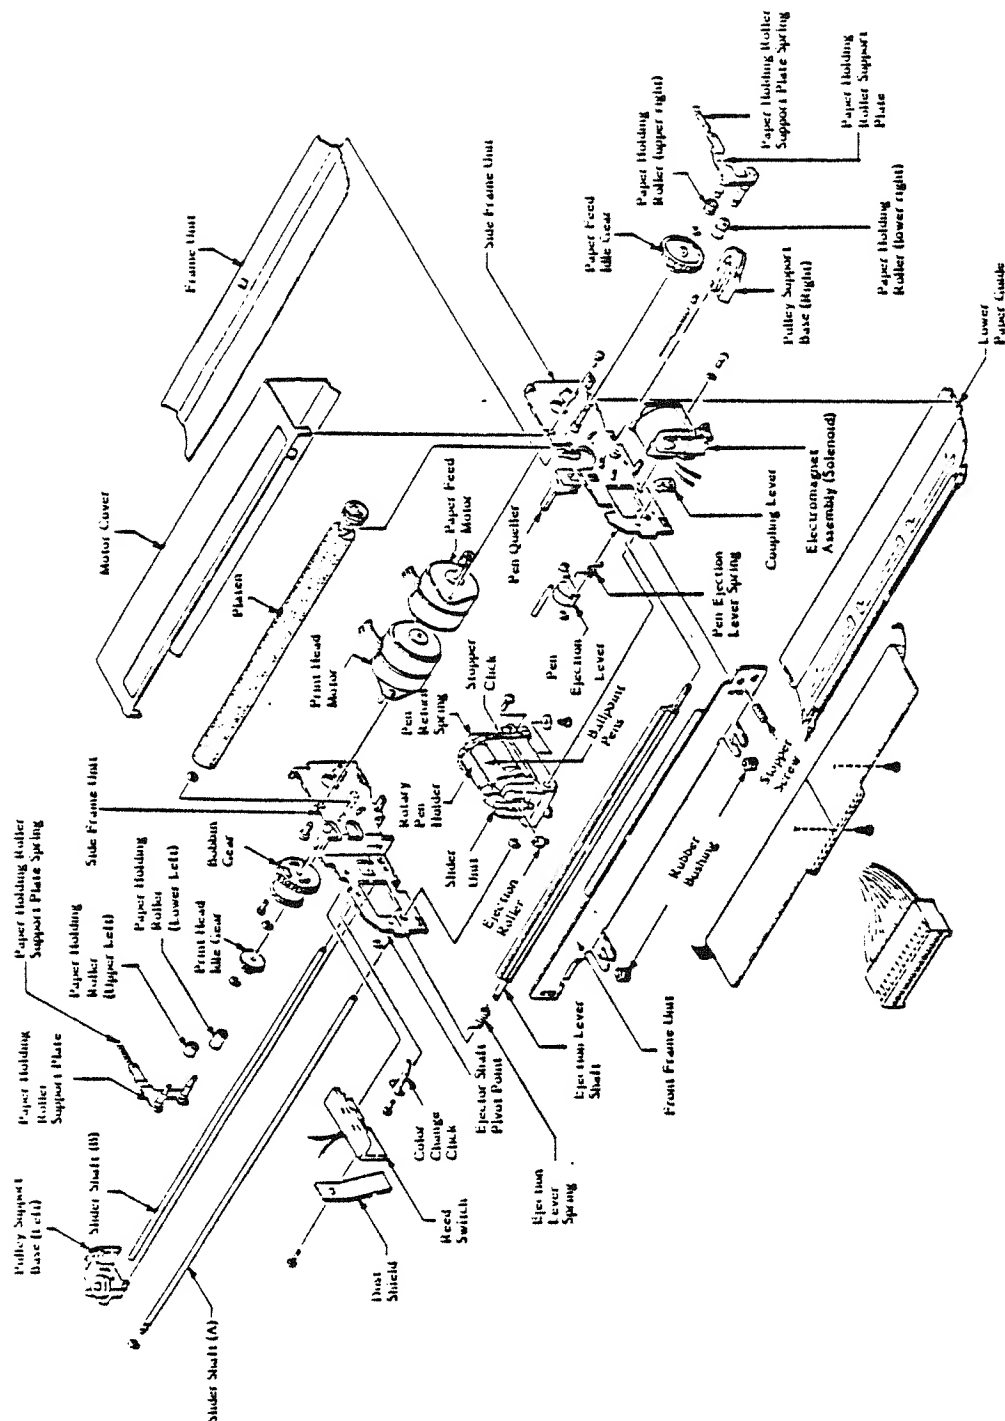
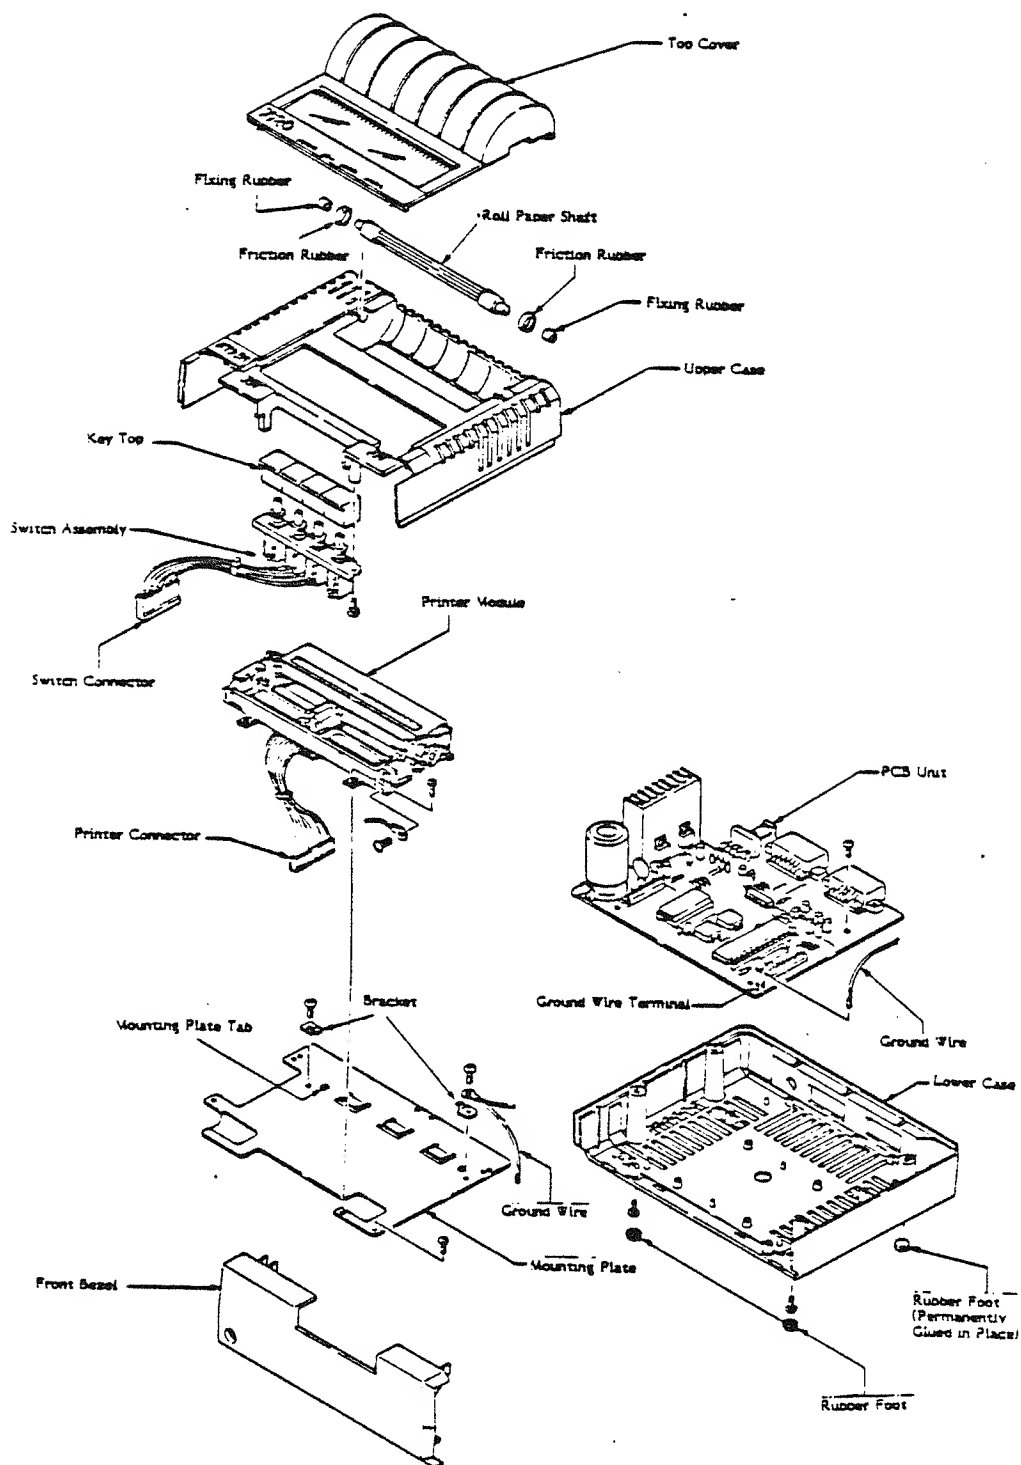

Figure 6-1. 1020 Color Printer Mechanical Assembly
Figure 6-2. 1020 Color Printer Final Assembly.
- Lubricate each of the following points with one small drop of light weight oil: Use Figure 6-1 as reference for these points.
Use Figure 6-1 and Figure 6-2 as reference for 1020 Color Printer Disassembly/Assembly.